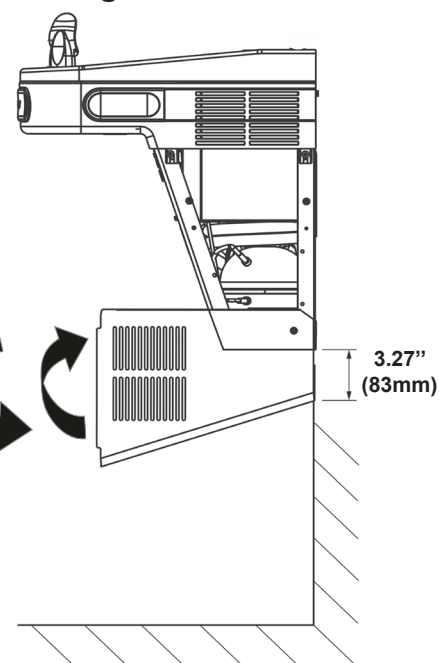

Fig. 5
1. Ensure that there are no plumbing or external objects below the wrapper in the specified dimension. The specified (3.27") minimum distance is required for the wrapper to swing out (see Fig. 5).